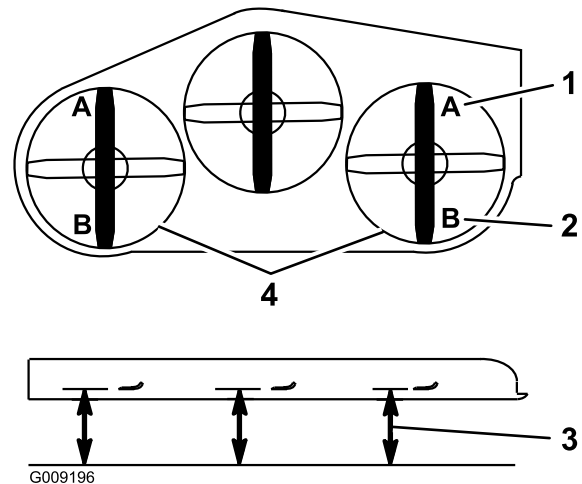

**Figure 91**
5. Push the deck-lift pedal all the way forward and the deck will latch at the 14 cm (5-1/2 inch) TRANSPORT position (Figure 91).